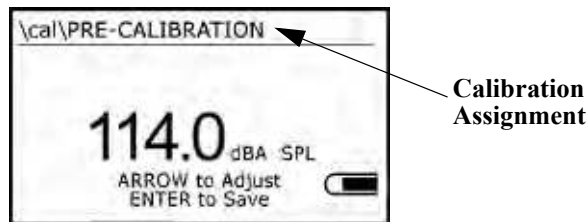

Figure 3–3: Calibration Save display
3. **CALIBRATE** is highlighted in the display. Press . The Calibration Save display appears (Figure 3–3). The intended Calibration Assignment shows in the Navigation Line.